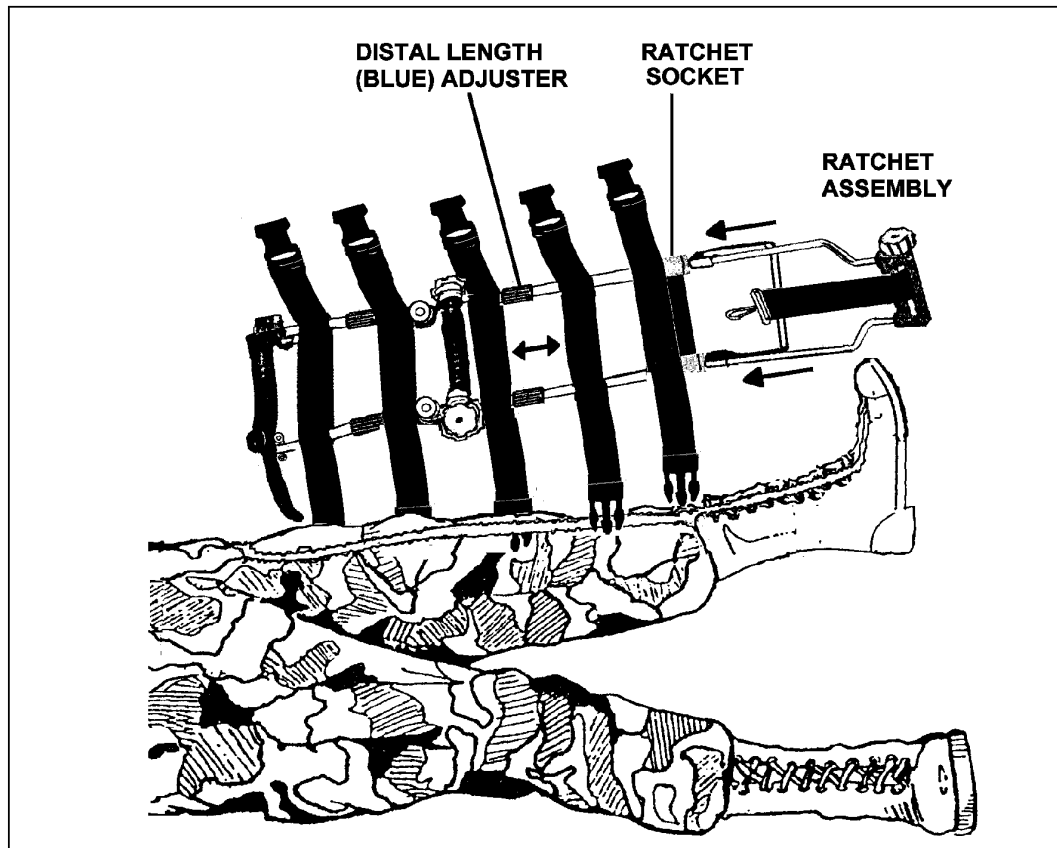

Figure 3-27
- c. Extend the splint until the bend in the splint is level with the casualty's heel. (See Figure 3-27.)